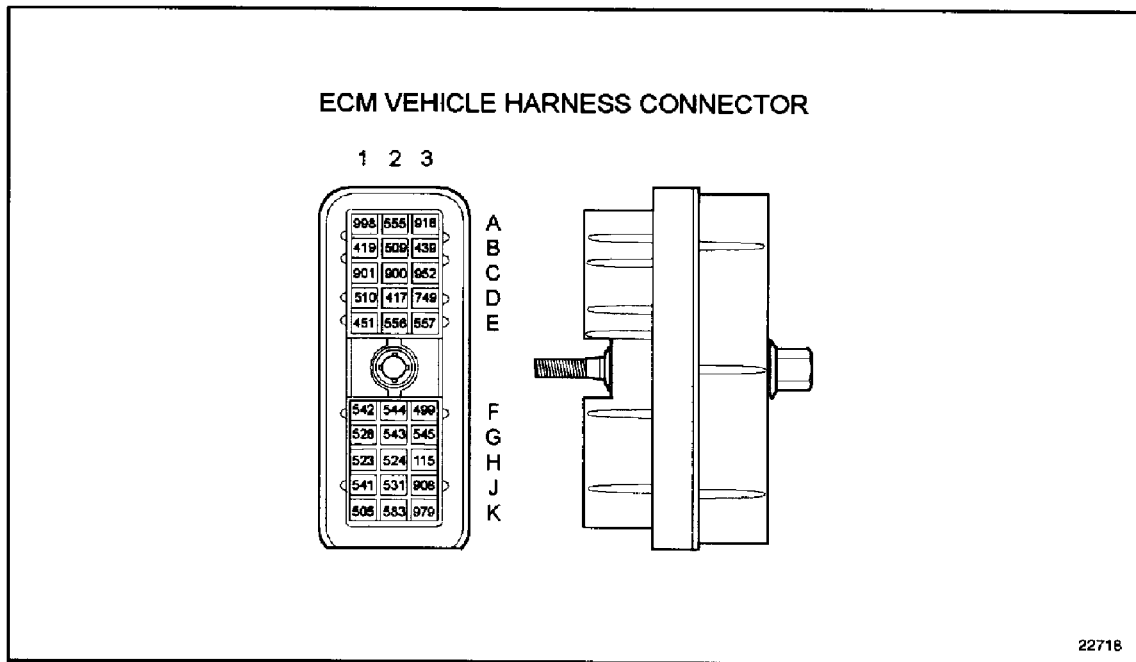

Figure 10-6 ECM Vehicle Harness Connector
2. Disconnect the vehicle harness connector at the ECM. For vehicle harness schematic, see Figure 10-6.